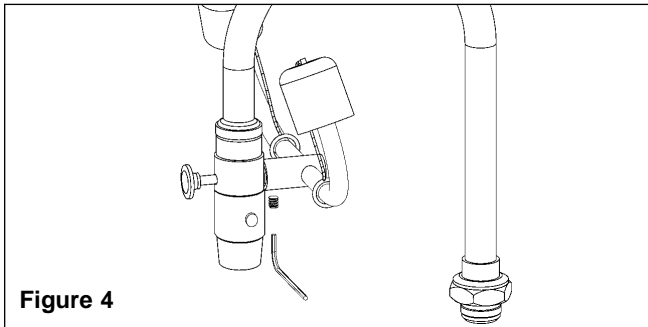

Figure 4
2. Attach the yoke assembly to the connection on the Eyewash adapter (see Figure 4). Be sure that the sprayheads are facing toward the user's eyes.